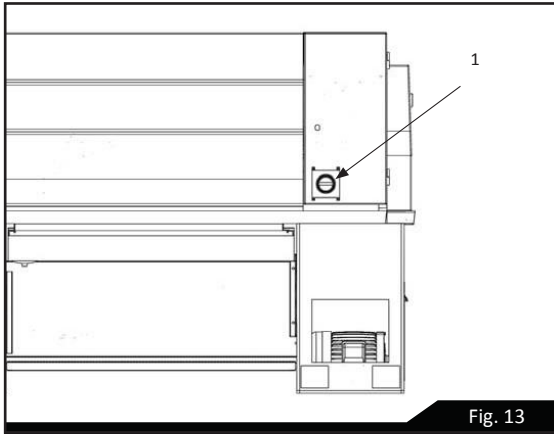

Fig. 13
- (1) **POWER SWITCH:** when the main power switch (1) on the electrical cover is turned on, the pilot lamp (2) glows and the electricity is on. (See Figure 13).
- (2) **POWER INDICATOR LIGHT:** When the power is on, the indicator light glows.
- (3) **EMERGENCY STOP SWITCH:** press the RED mush- room - head button to stop electric power, to stop the main motor and coolant pump.
- (4) **JOG BUTTON:** Press the GREEN button to move spindle slightly, it will make spindle speed selection very easy. (While the spindle roation lever is set in the neutral position).
- (5) **VARIABLE SPEED SELECTORS:** adjusting spindle speed.
- (6) Spindle speed chart.
- (7) Coolant pump ON/OFF switch.
- (8) End cover switch: While operating open end cover door for adjustment or maintenance, it will stop automatically all rotation movements.